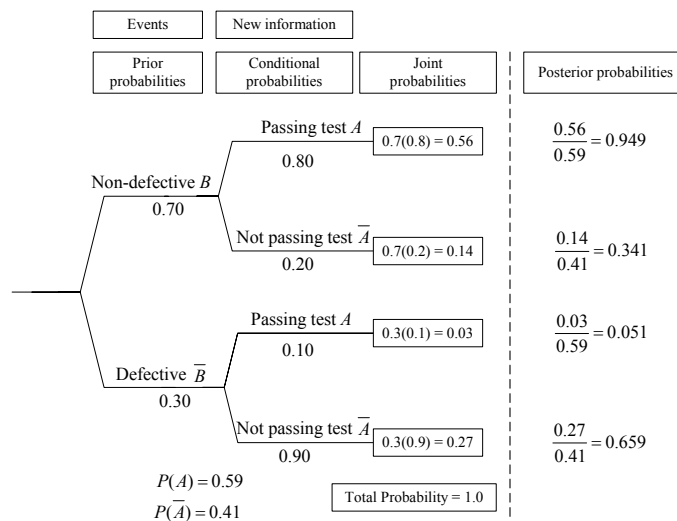

Figure 18. Probability-Tree Representation of a Defective Electric Components Problem
- Figure 18 shows the probability tree for this decision situation.